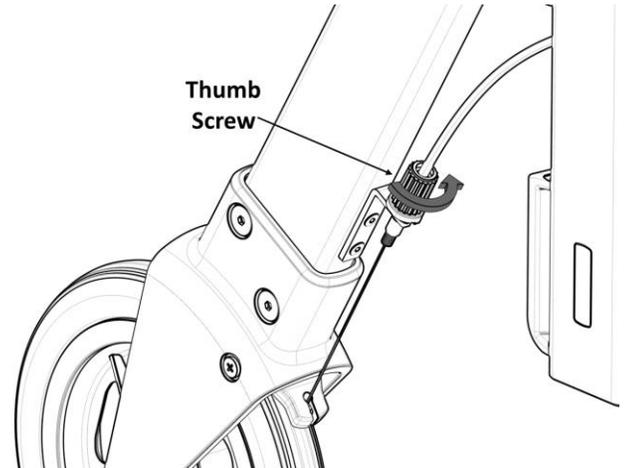

FIGURE 5
5. Twist **Thumb Screw** counterclockwise to increase brake resistance; twist clockwise to decrease resistance as shown in *FIGURE 5*.